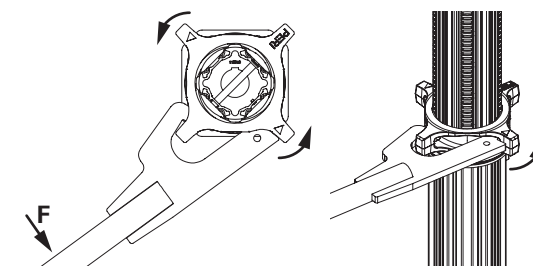

Fig. A7.01b
- Using a Wing Nut Spanner HD (Fig. A7.01b)